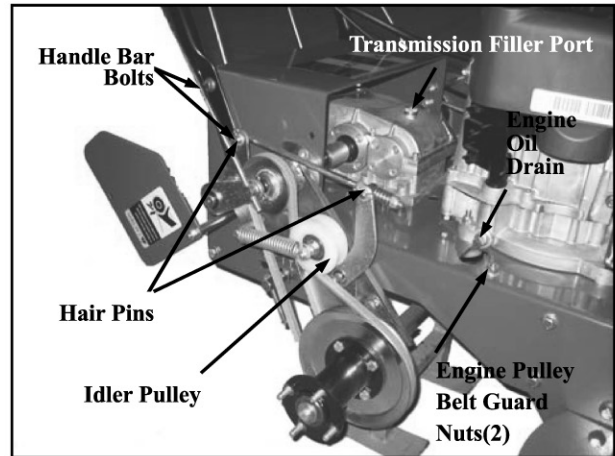

FIG 9 Wheel Drive Belts
2. Remove both Center Spindle Pulley Belt Guard, FIG 6, loosen and remove Belt Guard from Engine Pulley, Nuts are shown in FIG 9.
WHEEL DRIVE BELT REPLACEMENT FIG 9